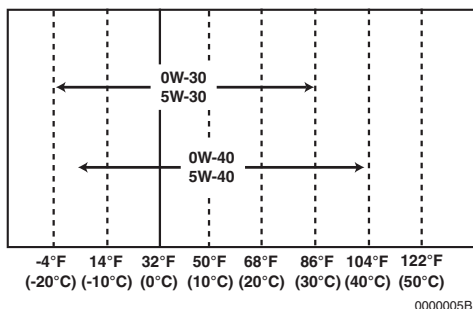

Figure 3-11
3. Select the oil viscosity based on the ambient temperature where the engine is being operated. See the SAE Service Grade Viscosity Chart (**Figure 3-11**).
Select the appropriate engine oil viscosity based on the ambient temperature shown in the SAE Service Grade Viscosity Chart (**Figure 3-11**).